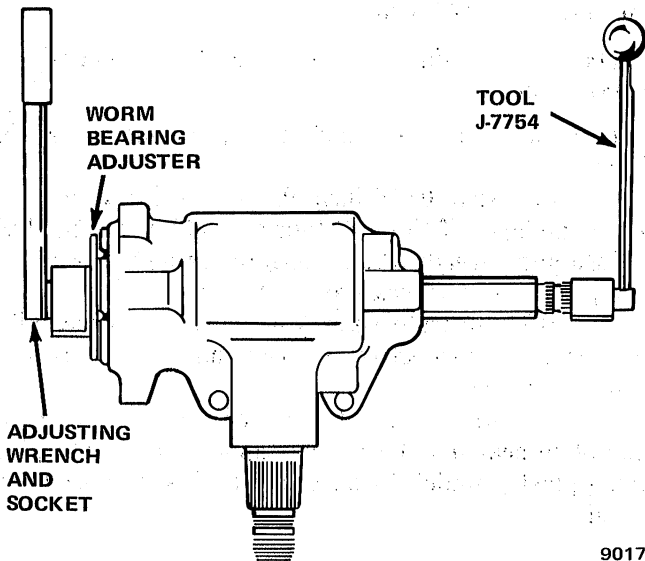

Fig. 2K-16 Adjusting Worm Bearing Preload Torque
(1) Tighten worm bearing adjuster until it bottoms, then back off adjuster 1/4 turn.
(2) Install socket and Torque Wrench J-7754 on splined end of wormshaft (fig. 2K-16).